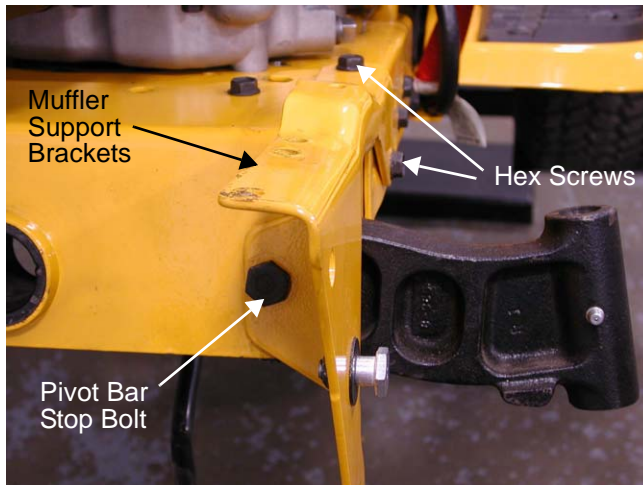

Figure 37.18
- 37.18. Remove the hex screws securing the left and right muffler support brackets to the frame using a 1/2" socket. See Figure 37.18.